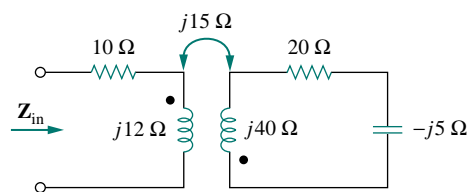

Figure 13.94 For Prob. 13.25.
- 13.25** Determine the input impedance of the air-core transformer circuit of Fig. 13.94.